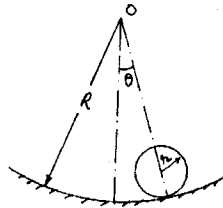

Fig. Q2 (a)
2. a. Figure Q2 (a) shows a cylinder of mass m and radius r rolls without slipping on a cylindrical surface of radius R . Determine using energy method, (i) Differential equation of motion (ii) Natural frequency of oscillation. (10 Marks)